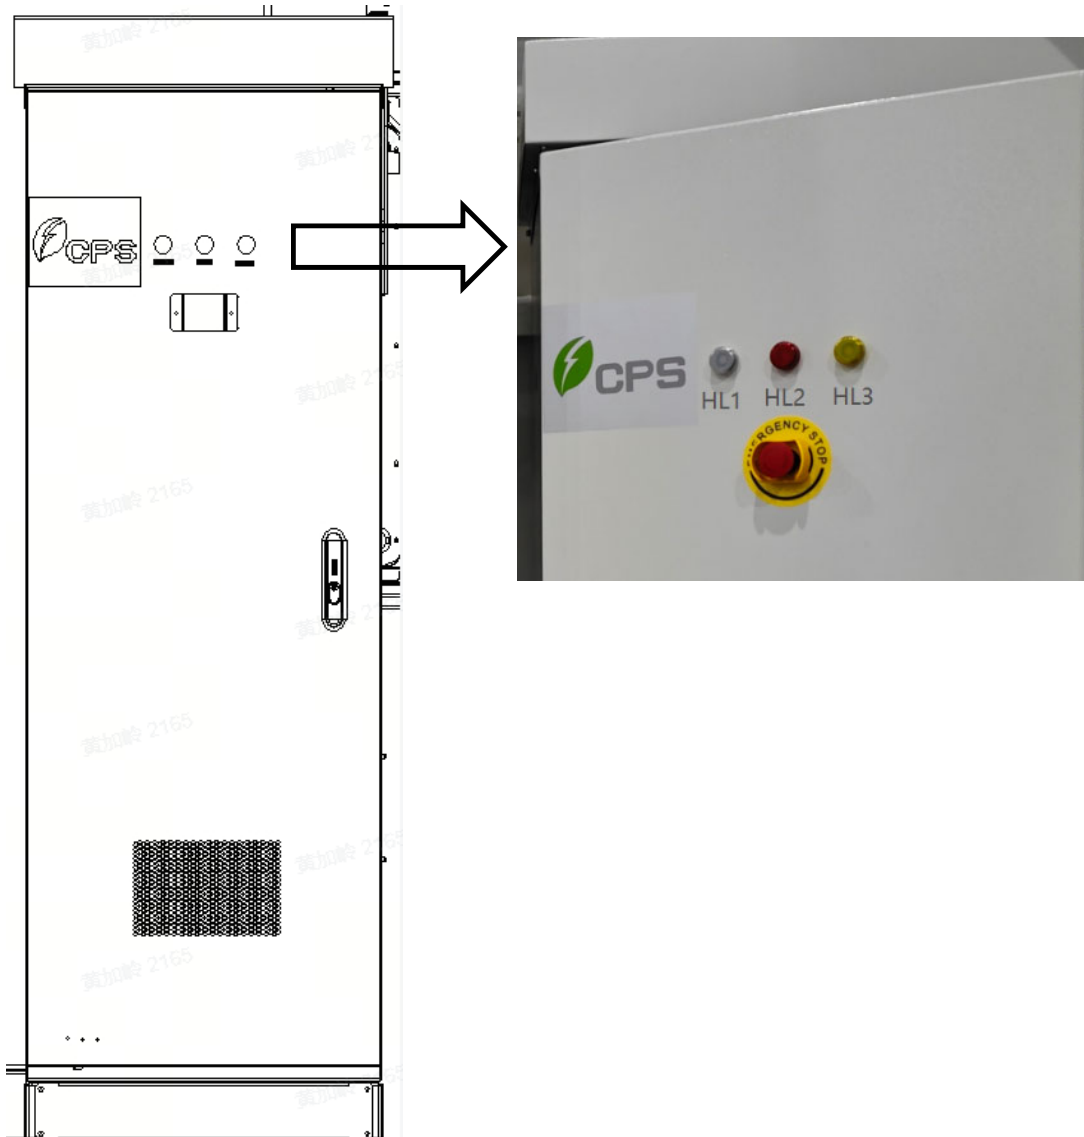

Fig. 4-3 Control power cabinet diagram
1. Set the PCS output to “0” (refer to the 5.1 Startup/Shutdown) to shutdown the 1#~12# PCS ⑧ and open the PCS AC relays;
2. Disconnect QF1~QF6 ⑦ in 1# AC combiner cabinet and QF7~QF12 in opposite 2# AC combiner cabinet;
4. Disconnect QFM ③ in 1# AC combiner cabinet at the LV side of the step-up transformer, and the green opening indicator light HL4 is on;
5. Disconnect the main switch QFM2 ⑤ of the control power cabinet, disconnect QF2 ~ QF4 ⑥, and disconnect the isolation fuse GK2 ④ in the 1# AC combiner cabinet. The white indicator light HL1 (Fig. 4-3) of the mains supply in the control power cabinet goes out;